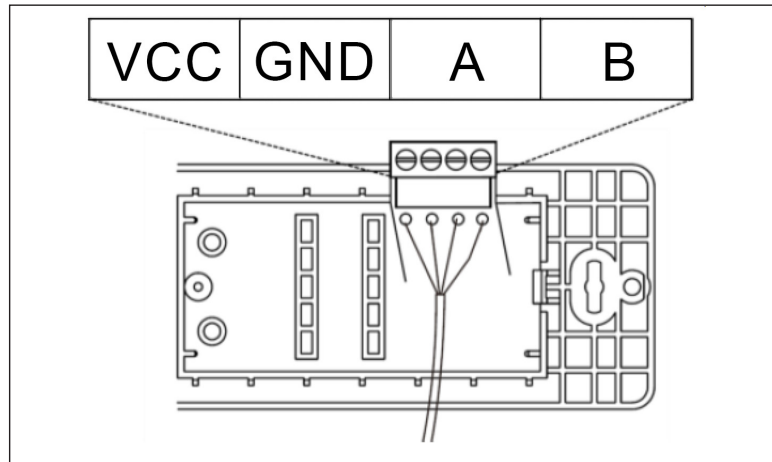

Figure 3: Wiring Control
9. Note which wire color has been chosen for each terminal. See Figure 3.